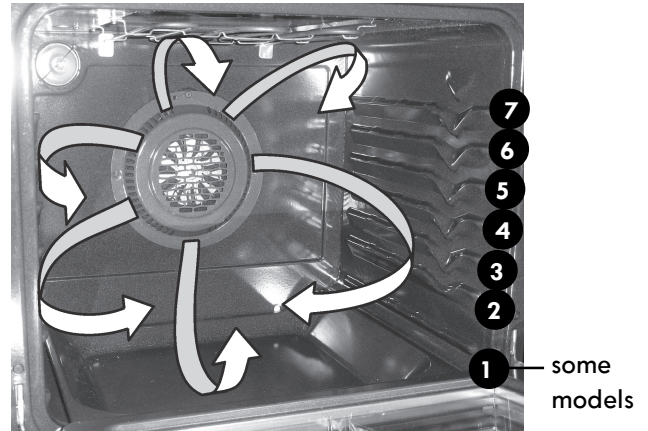

Fig. 1
- For best results when using a single oven rack, place rack in position 4 or 5 (See Fig. 1). When using 2 oven racks, place in positions 2 & 5. When using 3 oven racks place in positions 2, 4, & 7 (use offset rack only in position 7).